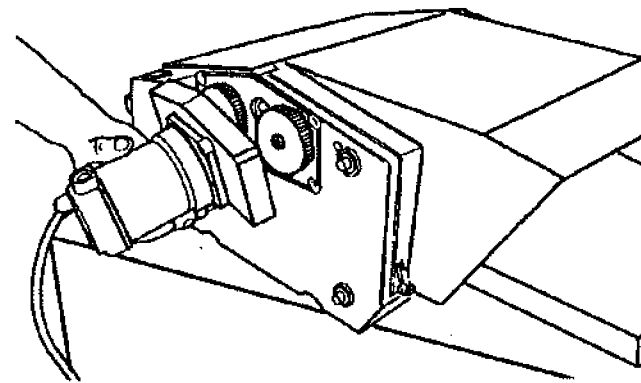

Fig. 21
27. Place a lock washer (44) on each of four socket head screws (43), then set the close to the planer.
28. Hold the feed motor in position, as shown in Fig. 21.